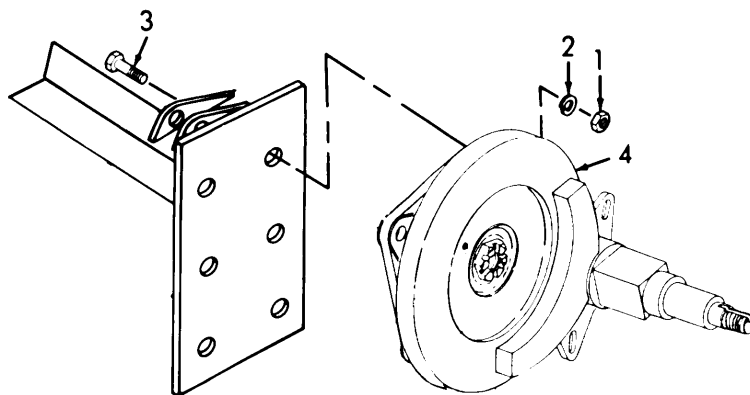

Figure 3-20. Banjo Suspension, Removal.
- (1) Set parking brake and block wheels so transporter will not roll.
- (2) Jack up rear axle frame and remove rear wheel.
- (3) Remove four nuts (1, Figure 3-20) four lockwasher (2), four bolts (3), and banjo suspension assembly (4).